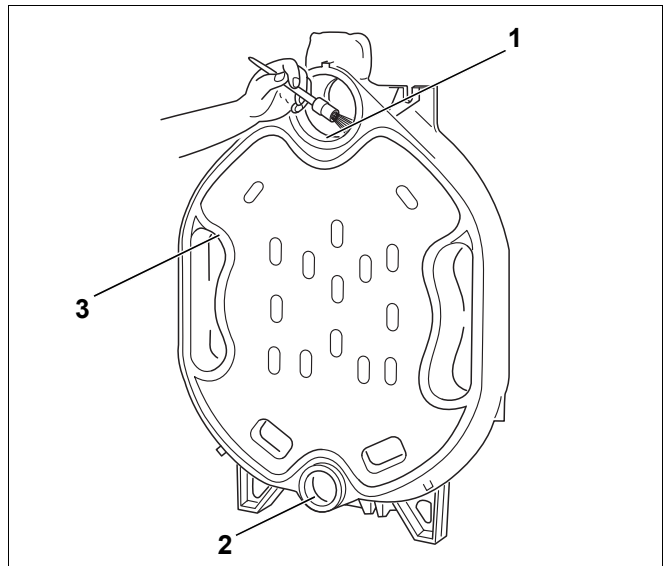

Fig. 8 Preparation of packing grooves and hubs
- Clean the packing groove (Fig. 8, **Item 3**) where required using a wire brush and cloth.
- Clean the hub sealing faces (Fig. 8, **Item 1 & 2**) with a cloth soaked in white spirit.